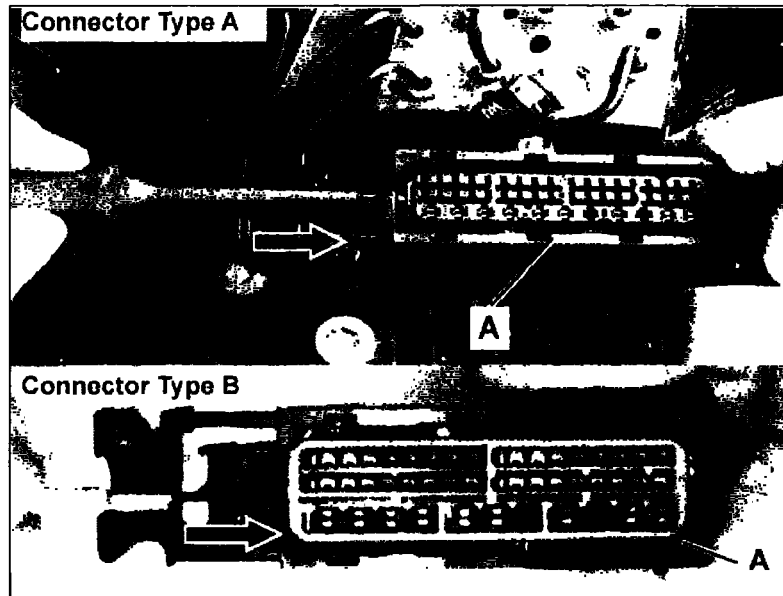

Figure 12
11. Close the (gray) secondary lock of the SBC connector housing (A, Figure 12) by sliding the lock in the direction indicated by the arrows (Figure 12) using a small screwdriver until it locks into place.